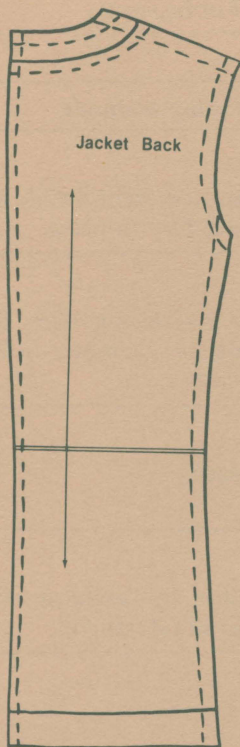

Figure 29. Adapt pattern back for lining. Lining cutting line.
- With the back neck facing and garment back pattern pieces, mark the cutting line $\frac{1}{4}$ inch (3 cm) toward the neckline (Figure 29). If the garment has no back neck facing, cut by the existing neck seam allowance.